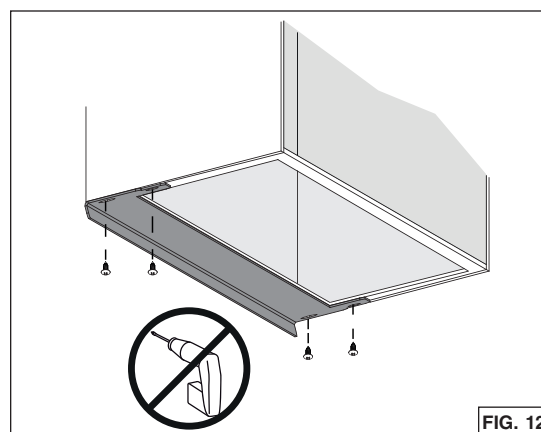

FIG. 12
8. There are 3 different sizes of filler included with these units, designed to fit up to 13-in. depth cabinets. For up to 15-in. depth cabinets, another set of 4 fillers is available (for BBN1243SS unit: HADTBN24, for BBN1303SS: HADTBN30). Choose the filler that fits to cover the back bottom edge of the cabinet. Use 4 no. 6 x 3/4" truss head wood screws (included) to mount it (FIG. 12).